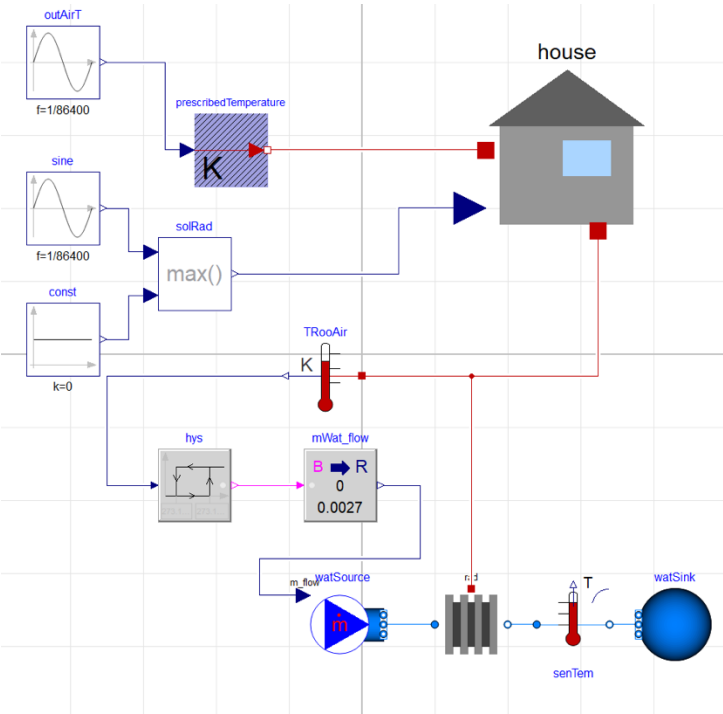

Figure 7.6: Connections in **Experiment4**
- Modelica.Thermal.HeatTransfer.Sensors.TemperatureSensor (1)
3. Connect the components according to Fig. 7.6